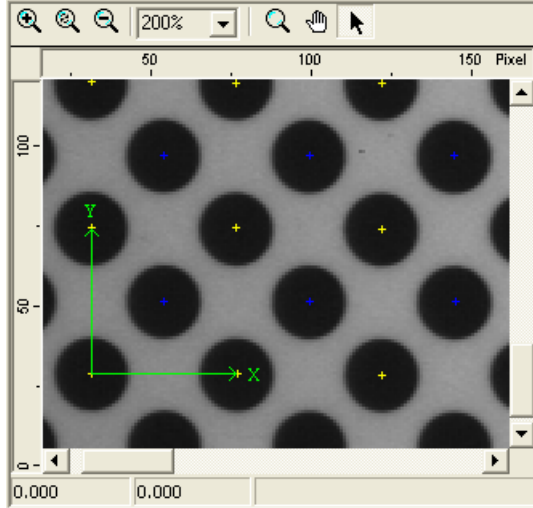

Figure 115 Zoom-in on the Coordinate Marker in the Calibration Dialog
9. Zoom in at the lower left corner of the display. A green coordinate system marker should be displayed in the bottom left, as in Figure 115. Note that this coordinate system is displaceable programmatically or with the mouse; leave it as is for this tutorial.